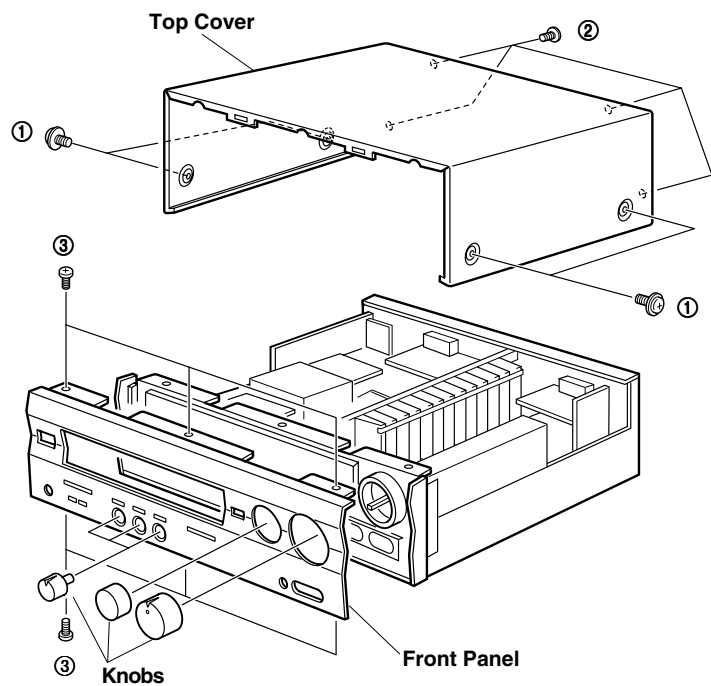

Fig.1
Remove 4 screws (1) and 4 screws (2) in Fig. 1.
- b. Remove 6 screws (3) in Fig. 1.